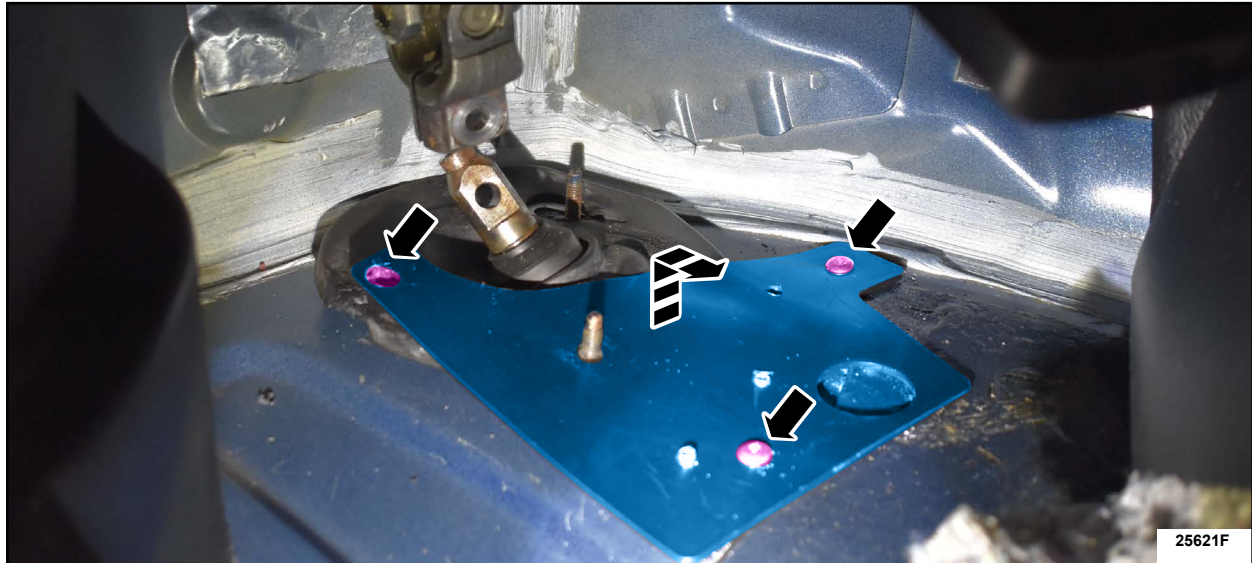

FIGURE 24
12. Using a 3/16 in. drill bit, remove the rivets holding down the steering column shaft plastic plate as shown in Figure 24. Discard the plastic plate and the rivets.